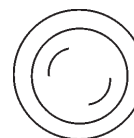

Figure 38. Pre-Heat Button
2. Press and hold the pre-heat button (Figure 38) for at least 5 seconds to warm the engine glow plugs.
4. Place the **MPEC control switch** in the **MANUAL** position to start the engine (Figure 38).